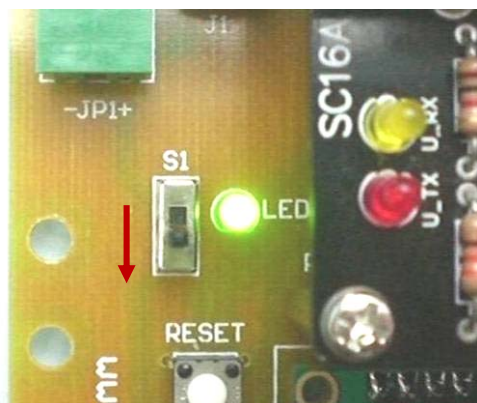

Figure 25
- II. Turn on the S1 switch of the circuit as shown in figure 25.